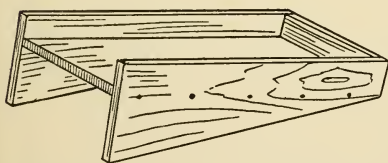

FIG. 154.—A Home-made Galley.
**A Galley.** Figure 154 shows a galley made of half-inch stuff. Cut the pieces as shown, and fasten them